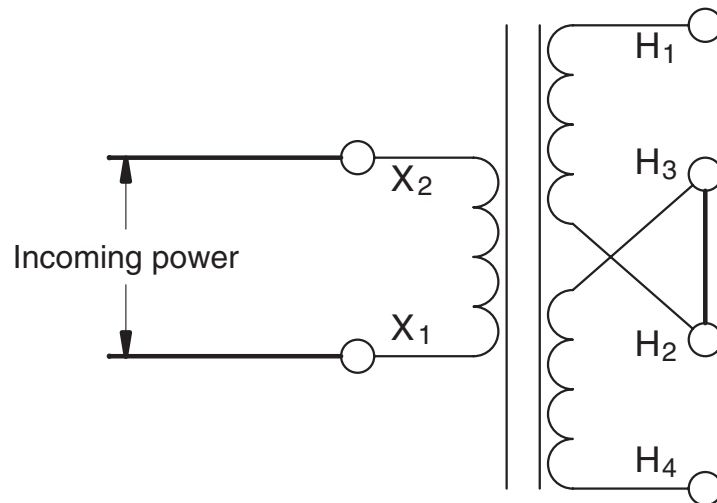

Figure 19-11 The incoming power is connected to terminals X_1 and X_2 .
14. Connect the transformer as shown in Figure 19-11. Make certain that the voltage applied to terminals X₁ and X₂ is 120 volts and not 208 volts. Also make certain that the AC voltmeter is set for a higher range than the computed value of voltage in step 13.